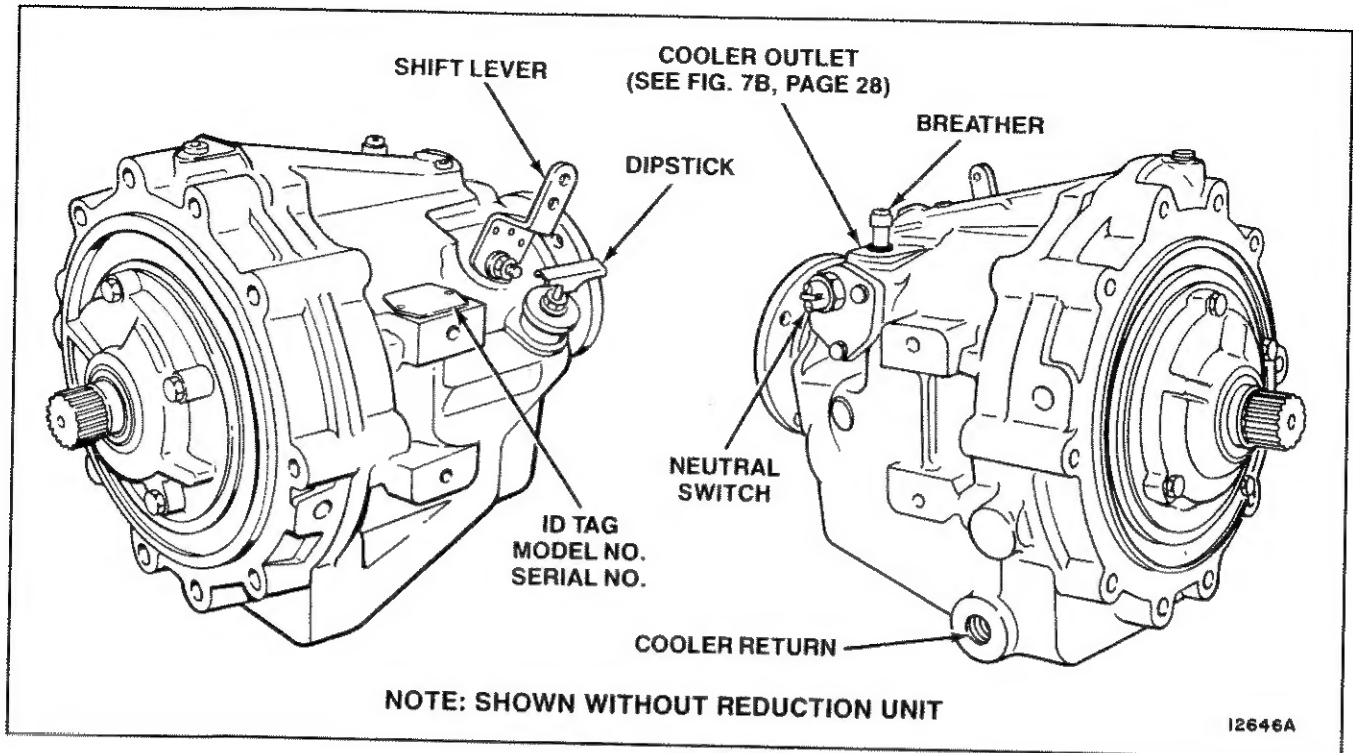

Figure 1. 71C and 72C Transmission Assembly
A. INTRODUCTION (See Figure 1).